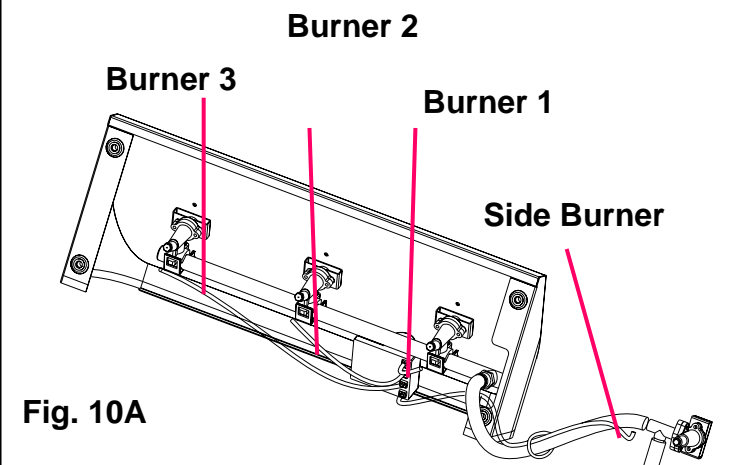

Fig. 10A
Locate: Fig. 10A shows the inside of the Control Panel Assembly (CP has (3) gas valves mounted on a manifold connected to the Hose, Side Burner Valve and Regulator assembly (HVR). There is an Electronic Ignition assembly attached, which has (4) igniter wires, of different lengths, to attach to each burner tube and the Side Burner and (4) M6x15 bolts.